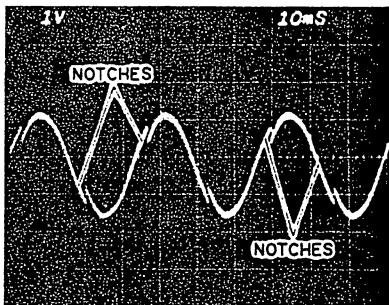
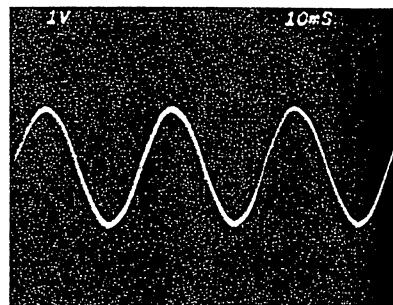

Fig. 4-10
Fig. 4-11
- 3) If notches appear on the waveform as shown Fig. 4-10, adjust VR 5(DAC MSB) on the VOICE PCB(refer to Fig. 4-2), so that the notches on the waveform is disappeared as shown Fig. 4-11.